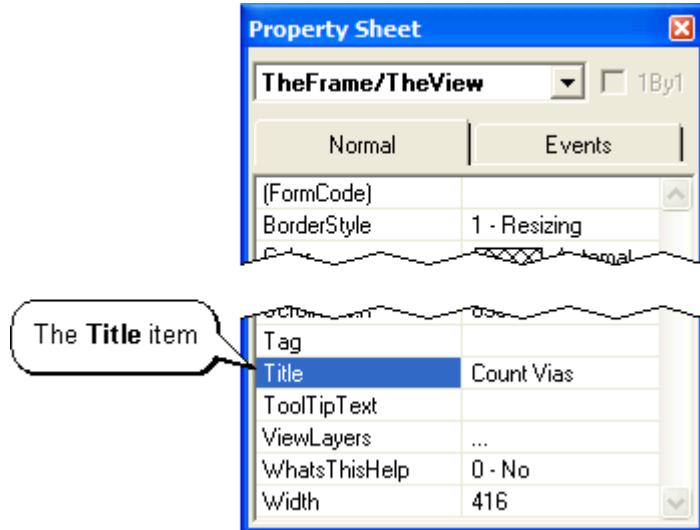

Figure 4-26. The Property Sheet dialog.
- 3) On the resulting pop-up menu select the **Form Properties** item. This will open up a **Property Sheet** dialog similar to the dialogs we used on the individual buttons. In this case, however, the dialog is associated with **TheFrame/TheView** (Figure 4-26)